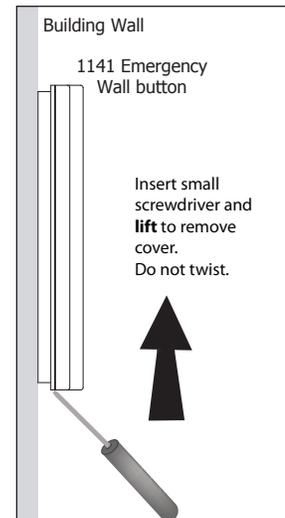

Figure 6: Removing the Cover
6. Observing polarity, place the 3.0V lithium batteries in the holder and press into place. See Figure 6 for Battery location.
7. Snap the cover back into place with LED toward the top. See Figure 6.